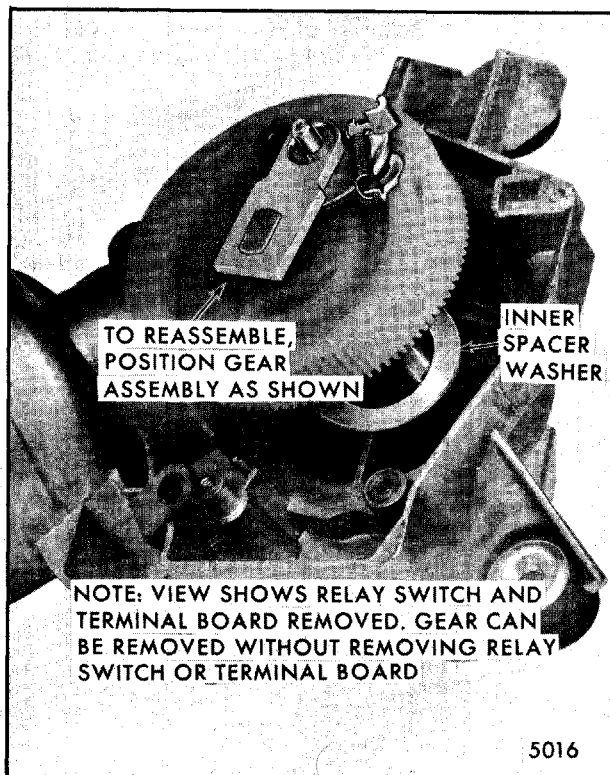

Fig. 2-94-Removing Gear
2. Slide gear assembly out of housing (Fig. 2-94).
5. Assemble inner spacer washer over the gear tube and reassemble gear mechanism in gearbox (Fig. 2-94).